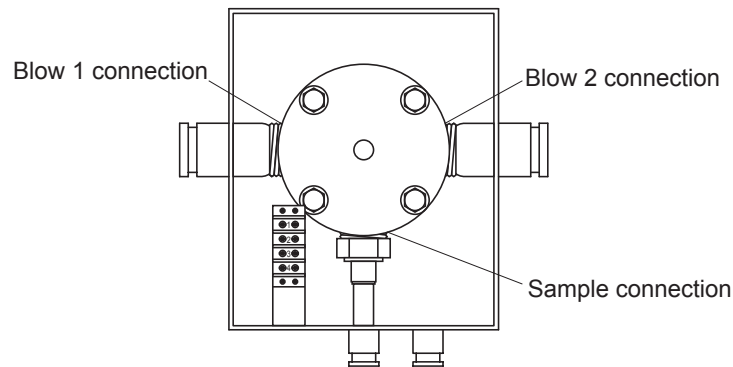

Fig. 5-3
- (2) Prepare pipe joints (for Rc1/2) if using pipes such as SUS pipe or SGP pipe.
- (3) SUS pipe is recommended for the blowback line pipe material.
- (4) Connect the pipes to the respective connections as shown in Fig. 5-3.